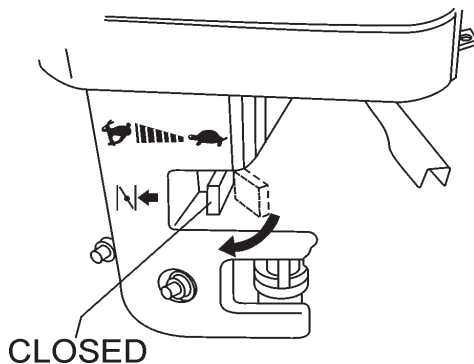

Figure 17. Choke Lever (Open)
- If the engine has started, slowly return the choke lever (Figure 17) to the "OPEN" position. If the engine has not started repeat steps 1 through 6.